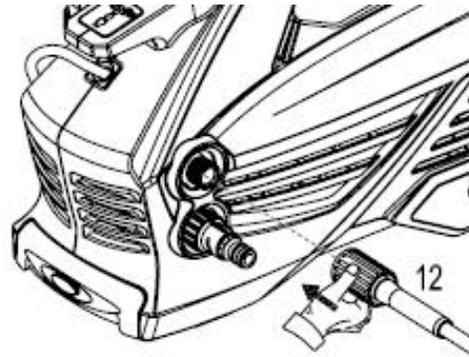

Fig.4
Screw the high pressure hose (12) onto the water outlet pipe. Push and turn (clockwise) it tight to avoid leakage. When the pieces are joined properly, you cannot separate the two components by pulling straight out from the water outlet. (Fig.4)